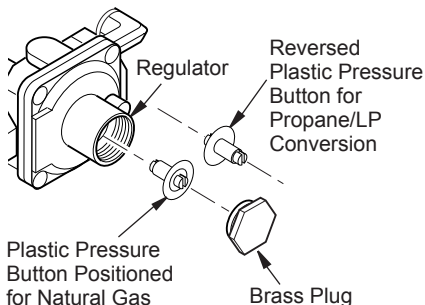

**Figure 8 - Remove Burner Inlet Fitting**
4. Using a wrench, remove gas control valve and burner inlet fitting by turning counter-clockwise (see Figure 8).
5. Remove burner inlet fitting from gas control assembly (see Figure 8). DO NOT remove orifice from this fitting. Propane/LP burner inlet fitting is included in hardware kit (see Figure 9).
7. Using thread sealant (resistant to the action of propane/LP gas) on smaller end of fitting, screw burner inlet fitting into outlet side of gas control (see Figure 8). Tighten using a wrench.
8. Thread gas control valve and burner inlet fitting into burner manifold (see Figure 8). Use thread sealant on male threads of burner inlet fitting. Secure with a wrench. Make sure control rod is facing the front (see Figure 8).